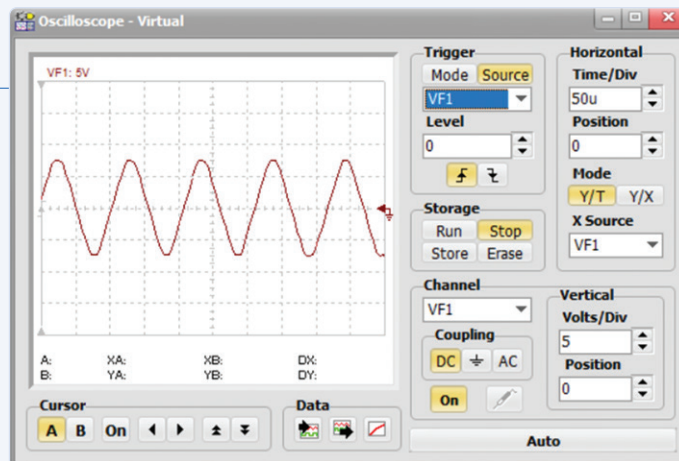

Figure 7: Output waveform.
- Check the output waveform (**Figure 7**). The period is 100 μ s (100u) which corresponds to 10 kHz.